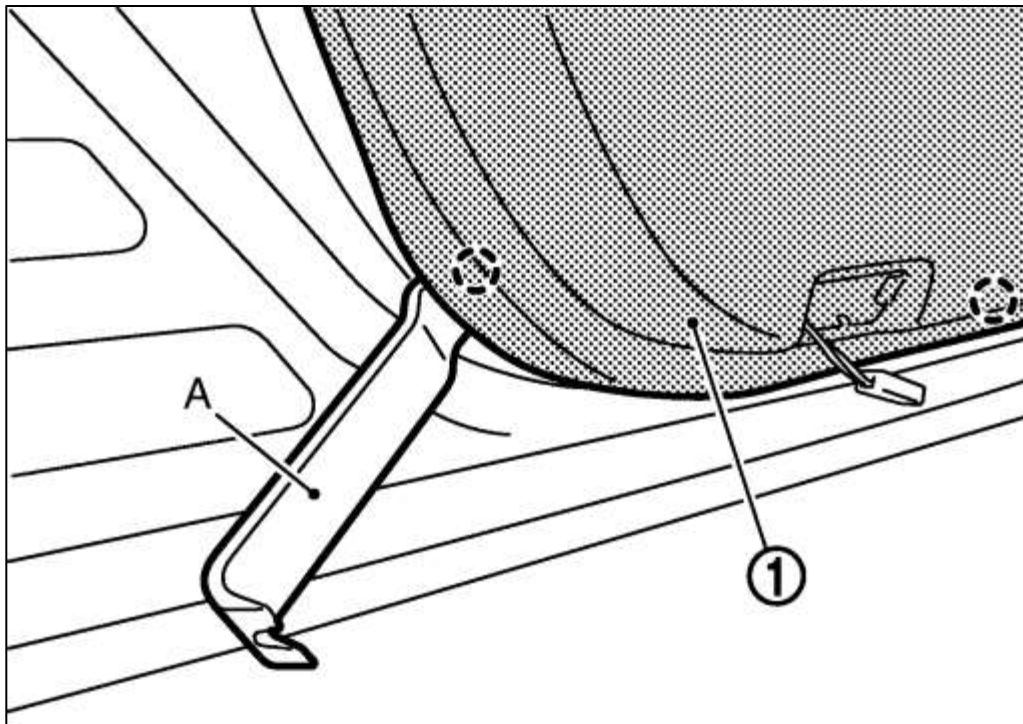

Figure 59
7. Starting at the bottom of the Door, use a Trim Removal tool to pry the Door Panel away from the Door. Once all clips are disconnected, pull up and away to remove the Door Panel. *Figure 59.*